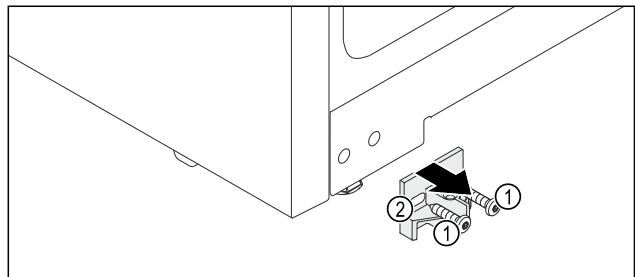

Fig. 12
- ▶ Unscrew the screws Fig. 12 (1).
- ▶ Remove the retaining part Fig. 12 (2) forwards.